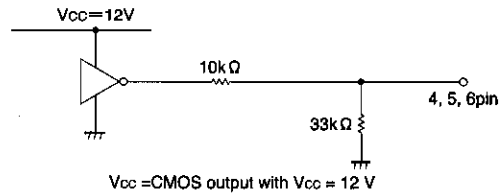

Fig.7
- (1) Though the IC input pins can be directly connected with MOS output pins, it is recommendable to connect resistors of about 3 ~ 30kΩ between the pins for the sake of pin protection (see Fig. 7).
- (2) When reversing the rotational direction of a motor, make sure to go through the brake mode in-between the opposite directions. It is recommendable to keep the brake mode for at least 10 μs.
- (3) Powering procedures should be designed so that VCC1 (pin 7) always rises first and falls last.